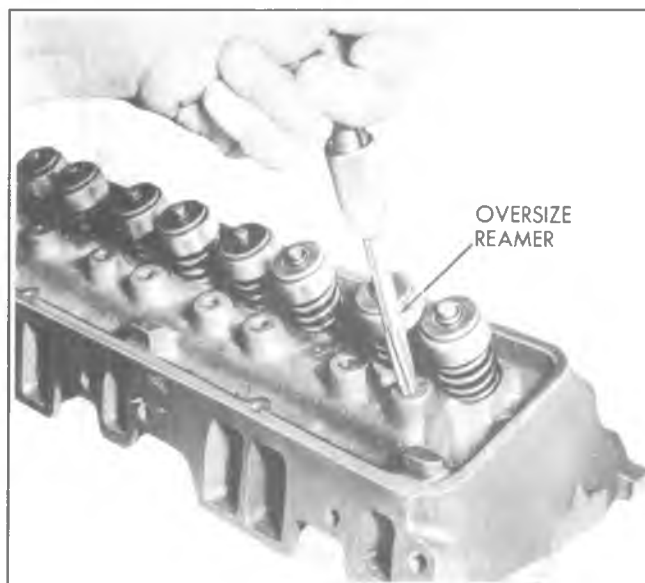

Fig. 6A1-19--Reaming Rocker Arm Stud Bore - Typical
1. Remove old stud by placing Tool J-5802-A over the stud, installing nut and flat washer and removing stud by turning nut (fig. 6A1-18).
2. Ream hole for oversize stud using Tool J-5715 for .003" oversize or Tool J-6036 for .013" oversize (fig. 6A1-19).
bottom on head (fig. 6A1-20).